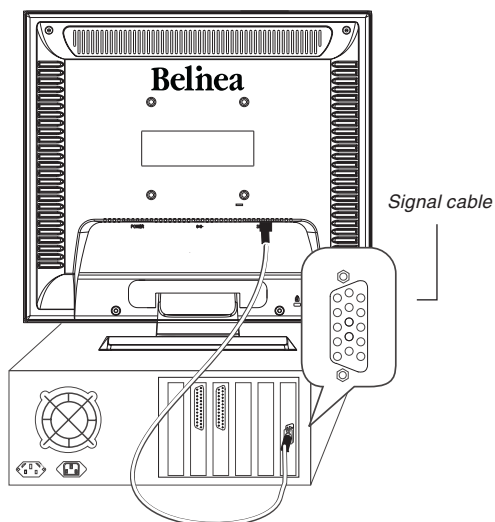

Figure 2. Connecting the monitor to the PC
2. Connect the 15-pin signal cable to the PC (see figure 2).